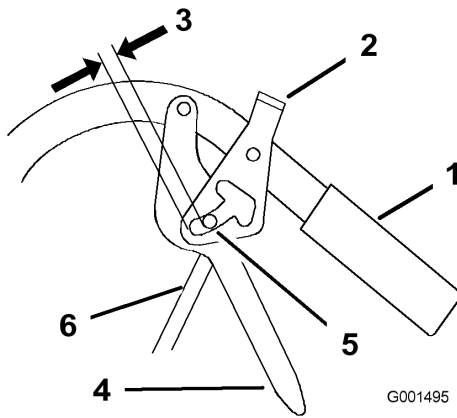

Figure 36
2. Adjust the control rod length by threading the rod in or out of the rod fitting until there is a 3/16 to 1/4 inches (5 to 6 mm) clearance between the control rod and the bottom of the neutral/parking brake lock (Figure 36).
3. Install the control rod to the drive lever and the neutral/parking brake lock. Secure the control rod with a clevis pin and a hairpin cotter (Figure 36).